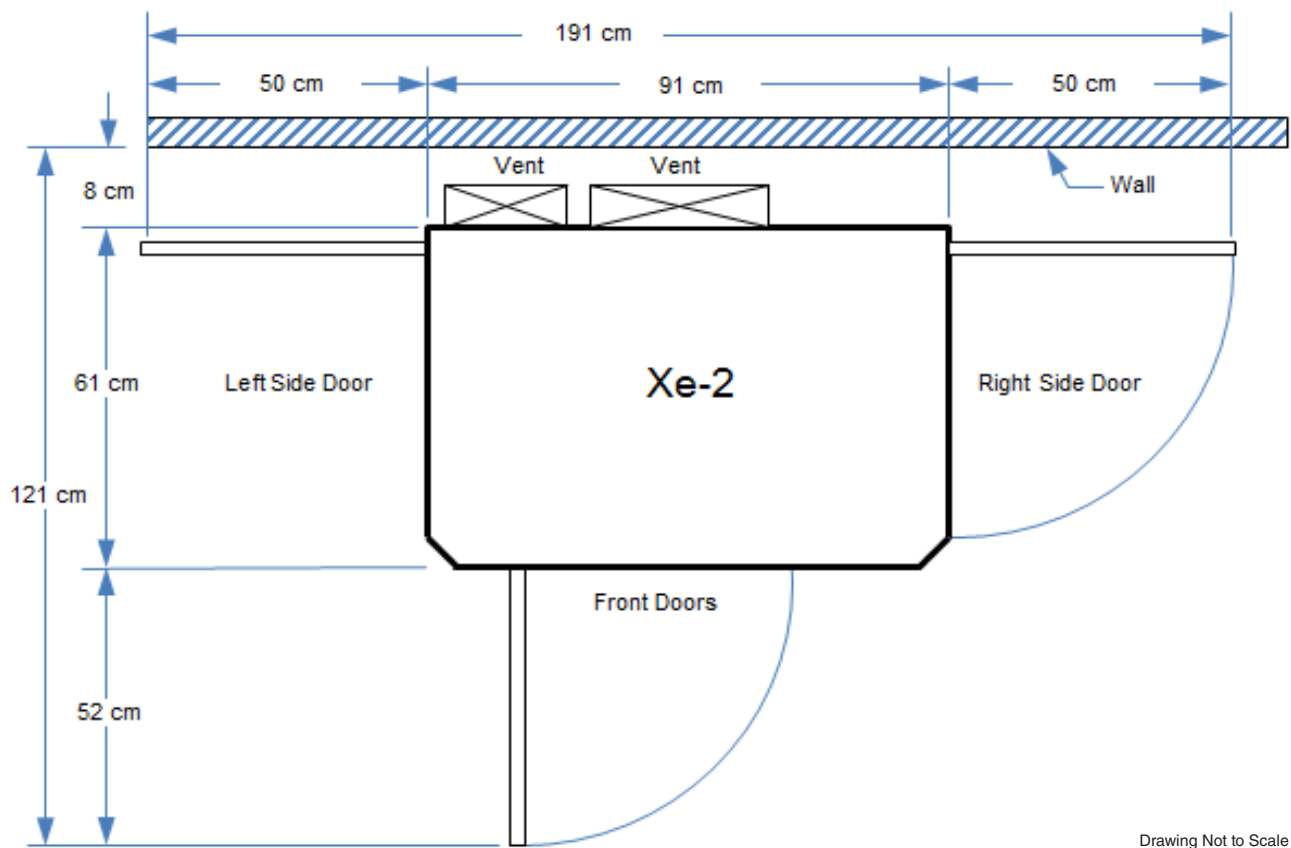

Figure 5.2: Floor space required.
- Allow adequate space around the tester for air flow and to access tester components (Figure 5.2).